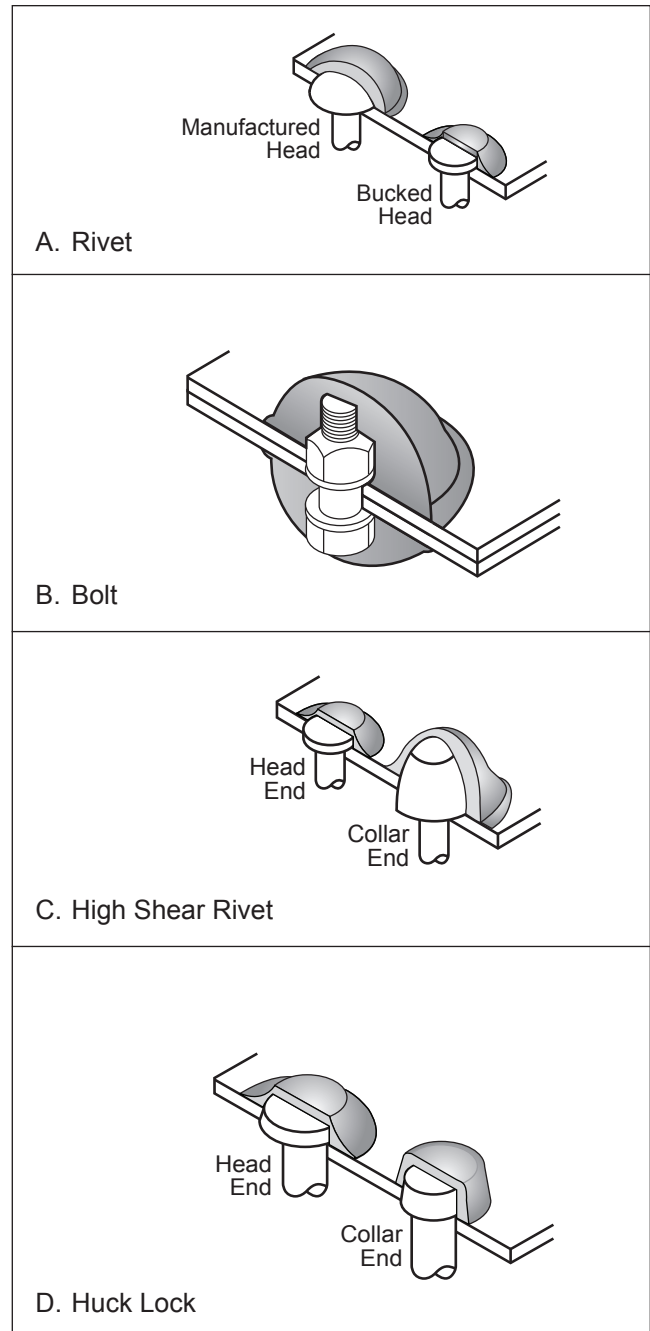

Figure 7-14. Typical Methods of Sealing Fasteners
7-8.4. **FASTENER SEALING.** Figure 7-14 illustrates techniques used to seal different types of fasteners. Fasteners are sealed either during assembly or after assembly.
b. To seal after assembly, cover the pressure side of the fastener with sealant after installation. As a general rule, sealant should be approximately $\frac{1}{8}$ inch thick over the top of the fastener, and extend a minimum of $\frac{1}{4}$ inch from the edge of the fastener onto the surface of the part (see Figure 7-14).